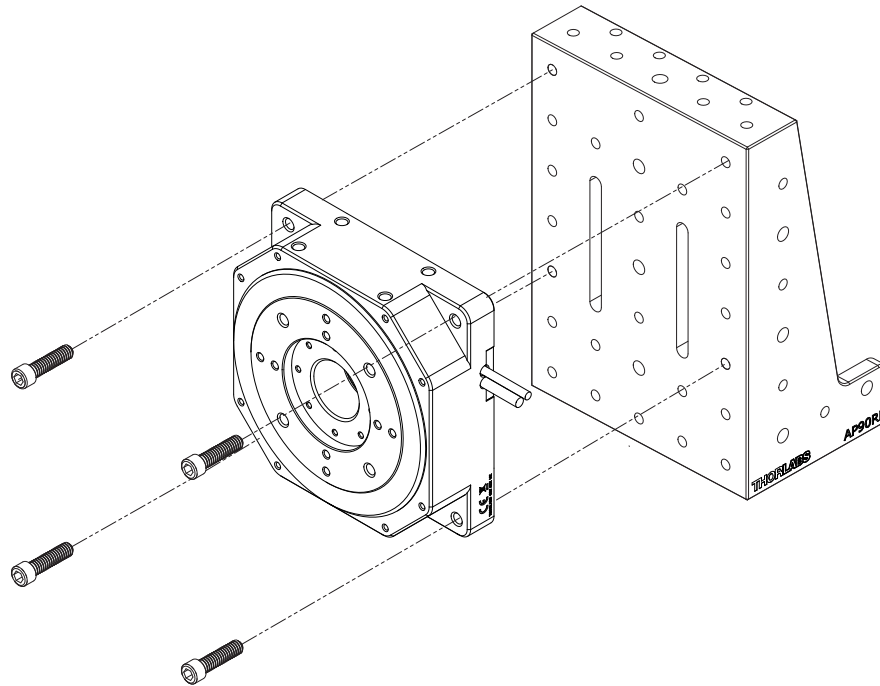

Fig. 3.3 Vertical mounting with AP90RL bracket
The stage can also be mounted vertically, using an AP90RL(M) bracket - see Fig. 3.3.